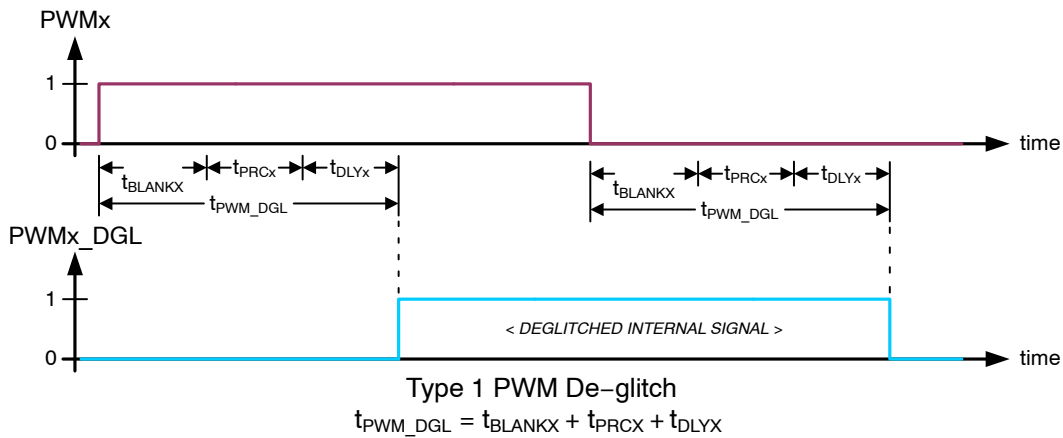
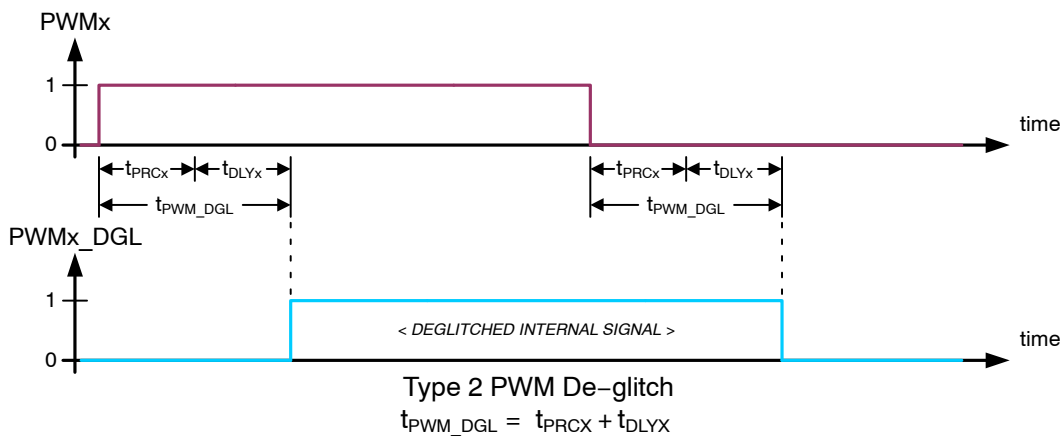

Figure 10. Type 1 PWMx Input De-glitch - CR14.DGL_x = 0
Figure 11. Type 2 PWMx Input De-glitch - CR14.DGL_x = 1
When multiple PWMx inputs are needed to be active, the scheduled PWM signals should be offset in time to avoid degradation of the VDS overload detection due to crosstalk (see § *Overload Protection*). The minimum offset should be based on the tPWL_DGL times appropriate for the respective channels (see § *Switching Behavior of Half-bridge Drivers*, Figure 10 and Figure 11).
- adaptive PWM input de-glitch construction when in half-bridge configuration is selected by DGLx[6:0] bits (see Figure 10, Figure 11, Table 21 and Table 22).
When operating HB1...HB7 in PWM mode and in half-bridge configuration, type 1 de-glitch is selected when CR14.DGL_x = 0 (see Figure 10) and the adapted time is given by:
Type 2 de-glitch is selected when CR14.DGL_x = 1 (see Figure 11) and the adapted time is given by:
- the PWM_x_DGL resulting from the channel's operating configuration (see § *Switching Behavior of Half-bridge Drivers*, Figure 10 and Figure 11);